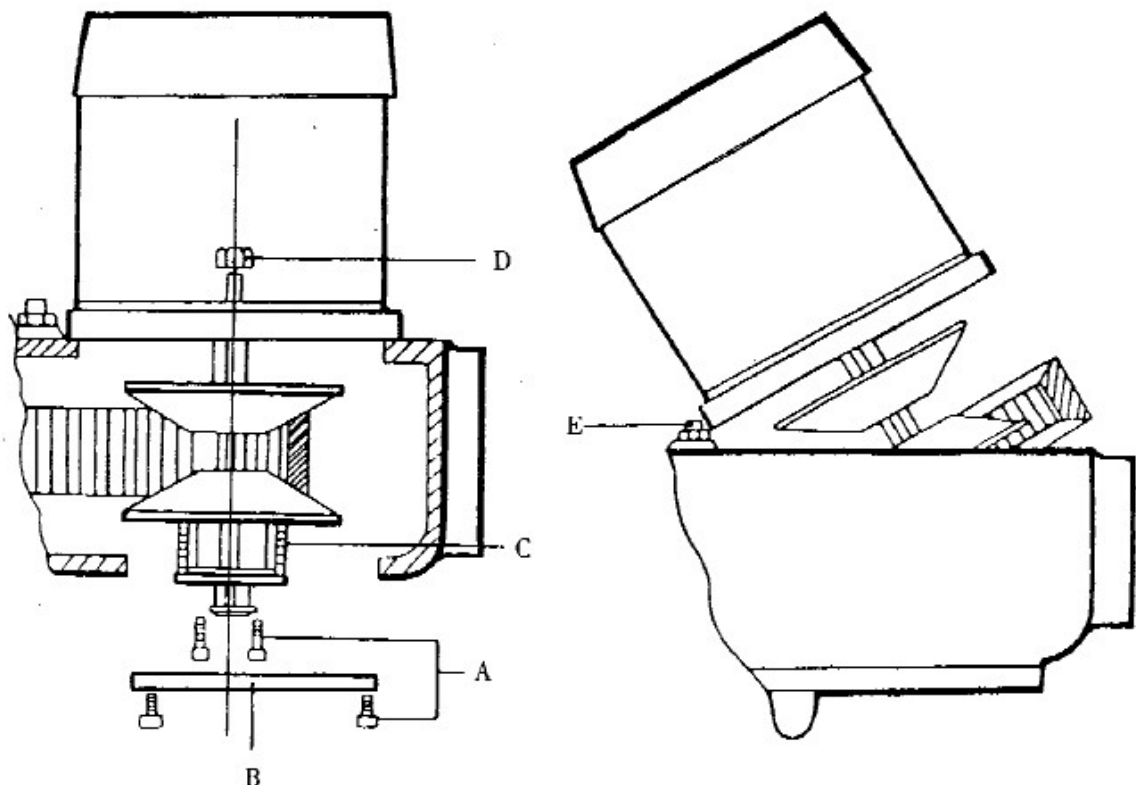

Figure 10. Removing the Motor (Side View)
REMOVING THE MOTOR(See Figure 10): Run the attachment to the bottom of either speed range and shut off the motor. This puts the vari -- drive belt in the best position for disassembly.
2. Remove the cover (# 54 page 36)(B. Figure 10) at the lower end of motor shaft. Use two cover screws (# 55 page 36)(A) to fasten the spring (# 44 page 38)(C) on the lower end of motor shaft, to the lower motor vari-drive pulley (# 43 page 38). This will reduce the hazard of personal injury that is always present when a heavy spring is under compression. When the pulley, spring retainer (# 45 page 38) and spring are securely fastened as a single unit, crank the speed change handwheel (# 16 Figure 9) to top speed position.
3. Now remove the screw (# 9 page 38)(D) that fasten the motor to the belt housing the motor should be lifted slightly and pulled firmly away from the spindle and toward the rear of the belt housing. This will pull the Vari-drive belt (# 27 page 38) deeply into the spindle pulley (# 25 page 38), providing the slack needed to ship the belt over the motor pulley (# 34 page 38).
4. Now lift the motor high enough to rest the motor base GENTLY on the adjusting screw (# 16 page 38) (E) seen directly in front of the motor flange. The belt can now be slipped over the lower pulley and the motor removed from the housing.